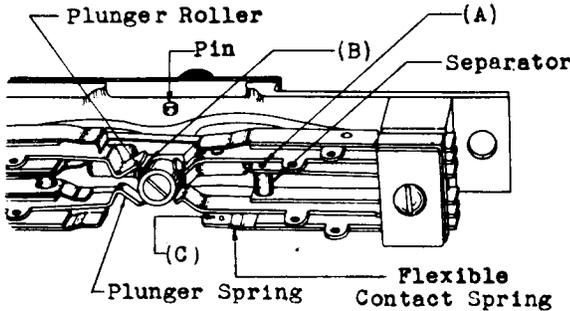
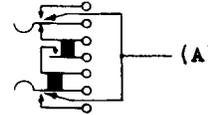

Fig. 2
Fig. 4
- *2.03 Pressure of the Plunger Springs Against the Separator - Fig. 2 (A)** - The pressure of the plunger springs against the separator shall be:
- *2.04 Position of the Plunger Springs Against the Plunger Roller - Fig. 2 (B)**
- *2.05 Clearance Between the Plunger Springs and the Plunger Roller - Fig. 2 (B)** - When the plunger roller is resting without pressure against the opposite pair of springs or the cam stop is resting against the key frame, the clearance between the plunger springs and the plunger roller shall be:
- *2.07 Contact Separation - Fig. 2 (C) and Fig. 4 (A)** - The separation between any pair of contacts normally open or between any pair of contacts that are opened when the key is operated shall be: